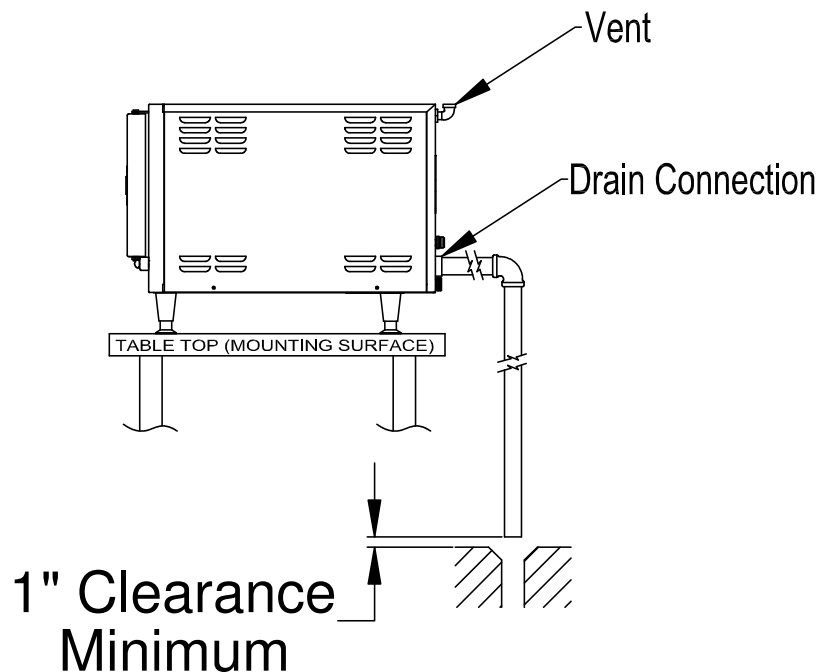

Figure 3-8
2. Connect the drain to a free air vented drain line. See Figure 3-8.
3. Free air venting requires a minimum 1" clearance between the end of the drain line and the top of the floor drain. See Figure 3-8.
11. Connect the drain to the appliance. See Figure 3-8.